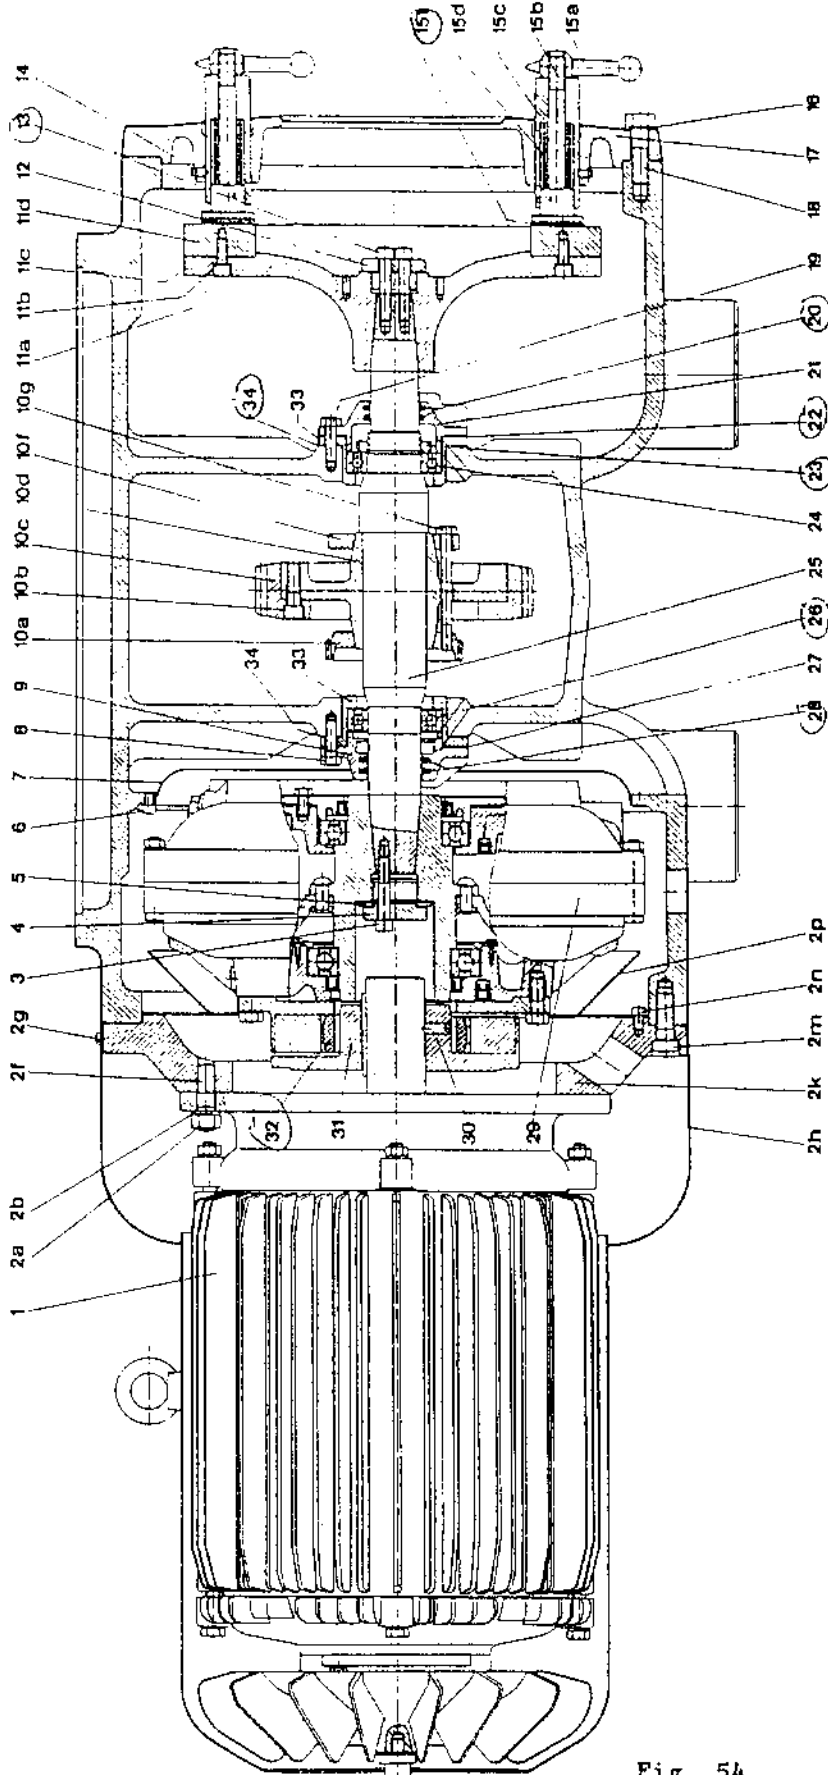

Fig. 54
* When replacing this part, it is recommended that the worm wheel assembly with clamp plates, 10a-g (fig. 54), be replaced at the same time.
List of Parts shown in Fig. 54